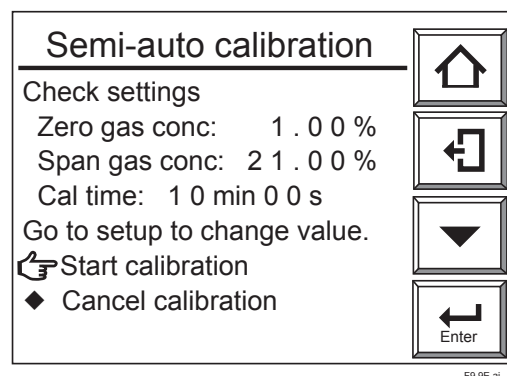

Figure 9.12 Semi-auto Calibration Display
- (2) Select "Semi-auto calibration" to display the Semi-auto calibration display shown in Figure 9.12.